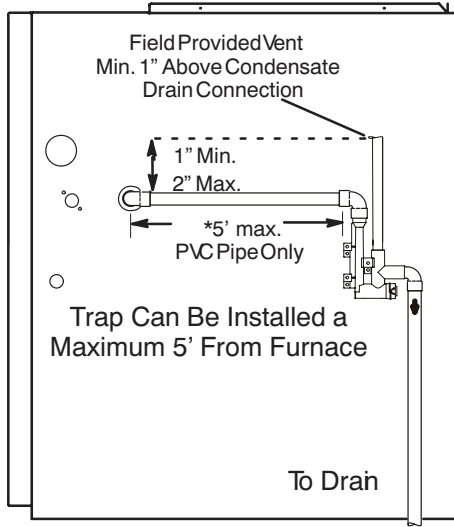

**FIGURE 49**
**NOTE** - Appropriately sized tubing and barbed fitting may be used for condensate drain. Attach to the drain on the trap using a hose clamp. See "FIGURE 49".